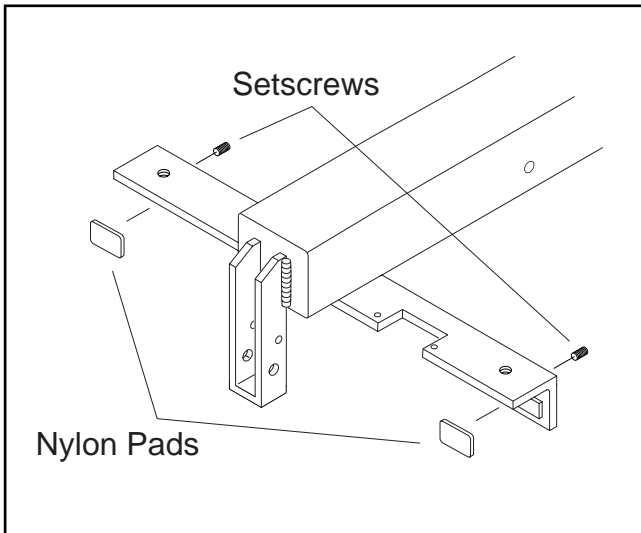

Figure 28.
2. Remove the fence from the saw and adjust the setscrews equally on the rear side of the front bracket as shown in **Figure 28**.
2. Remove the fence from the saw and adjust the setscrews on the rear side of the front bracket as shown in **Figure 28**. Make VERY minor adjustments and recheck by reclamping the fence along the miter slot after each adjustment. Keep in mind that a small turn of the setscrew can make a large difference over the length of the fence. Be sure clamping pressure is still adequate.